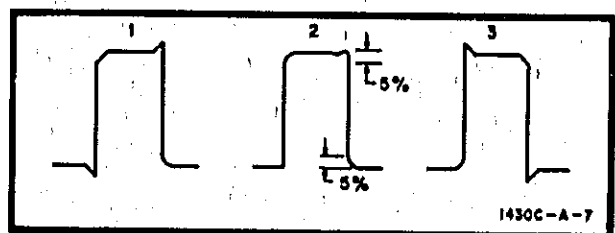

Figure 5-7. Low Frequency Distortion
- Adjust vertical sensitivity and vernier to obtain at least 5 div of deflection. Observed pulse should look like one of three waveforms in figure 5-7.
figure 5-7 waveform 2 (minimum peaking and rounding). Overshoot specification is 7.5%.